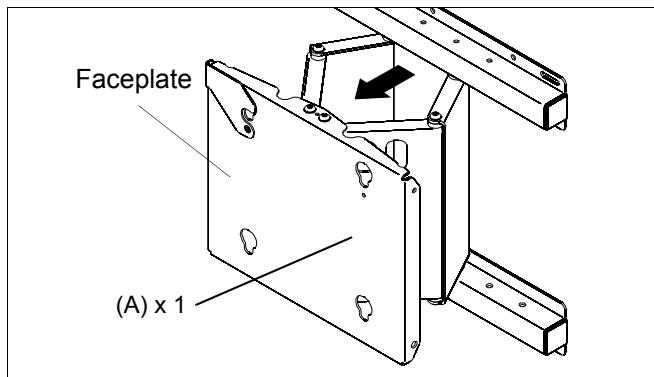

Figure 6
2. Move mount faceplate to extended position by grasping faceplate and pulling outward away from wall. (See Figure 6)